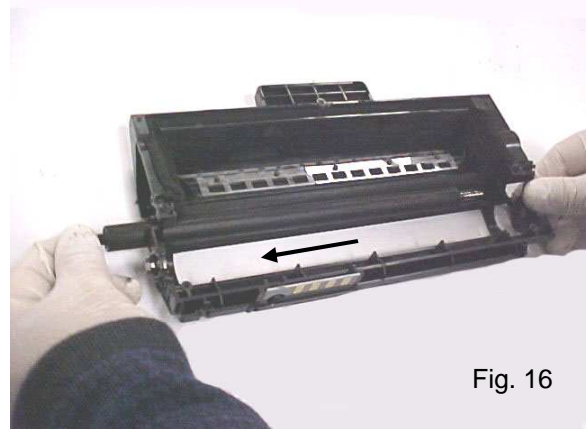

Fig. 16
16. Pull the developer roller out through the plate opening. Be careful not to lose or damage the flat washers on the roller. Clean the developer roller with compressed air or vacuum followed by isopropyl alcohol and a lint free cloth (Fig. 16).